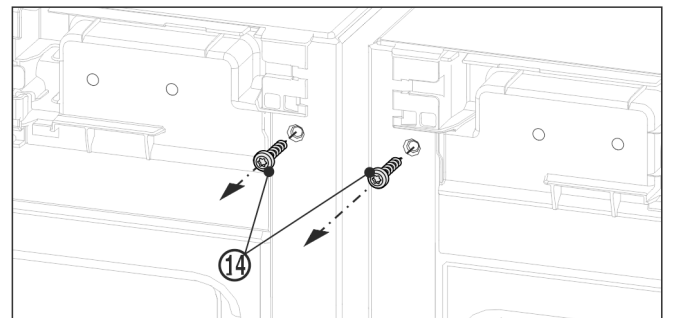

Fig. 11
- ▶ Before fitting the top bracket, unscrew both grounding screws Fig. 11 (14).